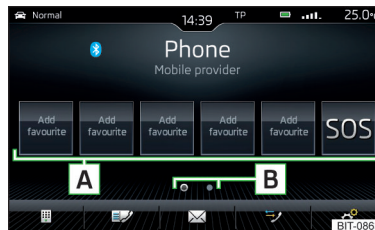

Fig. 209
- › In the main menu *Telephone*, **tap on** the desired function surface  » Fig. 209.
- › To **change Storage Group** tap on the functional surface  » Fig. 209.
- › To **choose** tap on the assigned function area  » Fig. 209.
- › In the main *Telephone* menu, **press and hold** the desired function surface  » Fig. 209.